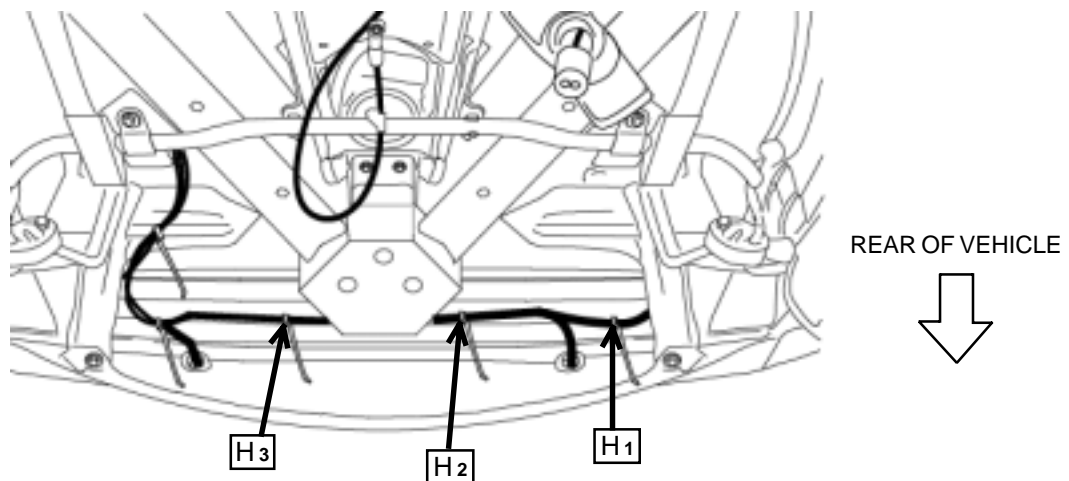

Figure 10.
- 2.) Insert one christmas tree tie [H1] into location as shown below. Route the sensor cable marked "L" back toward the bumper and fasten it using the christmas tree tie (Figure 10.).
- 3.) Insert one christmas tree tie [H2] into location as shown below. While removing cable slack, route the sensor cable marked "L" towards the passenger side of the vehicle grouping it with the sensor cable marked "CL" and fasten them using the christmas tree tie (Figure 10.). **NOTE: If the vehicle is equipped with a trailer hitch, route sensor cables above the trailer hitch bracket.**
- 4.) Insert one christmas tree tie [H3] as shown below. While removing cable slack, route the sensor cables marked "L" and "CL" towards the passenger side of the vehicle and fasten them using the christmas tree tie (Figure 10.).